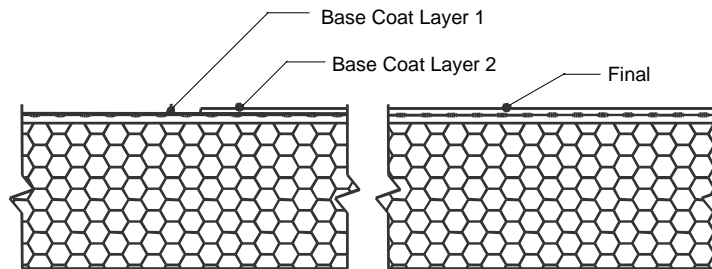

Figure 19
- a. The base coat shall be applied such that the resulting overall minimum base coat thickness is sufficient to **fully embed** the reinforcing mesh. The recommended method is to apply the base coat in two (2) passes.
- 3) Allow the base coat mixture to take up until firm to the touch. Trowel a second tight coat of the base coat mixture over the first coat to **fully cover** the reinforcing mesh - Figure 19. The result should be such that the reinforcing mesh is approximately centered within the base coat thickness. Do not allow the first pass to completely dry prior to the second pass application or an excessive amount of base coat mixture will be necessary to fully coat the wall surface.